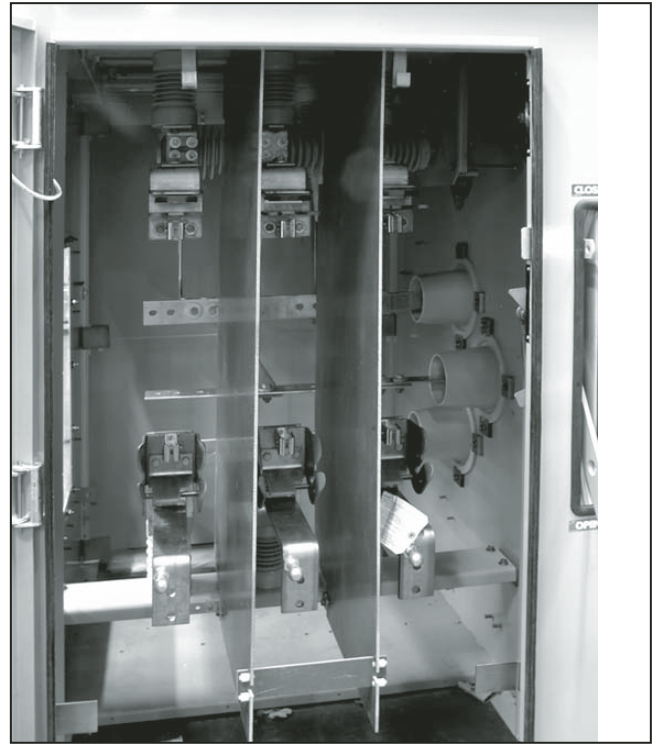

Figure 22. Fuse mountings.
- (b) Install the fuses in the fuse mountings following the appropriate procedure described in the S&C instruction sheet on operation, which is included with this switchgear. See Figure 22.